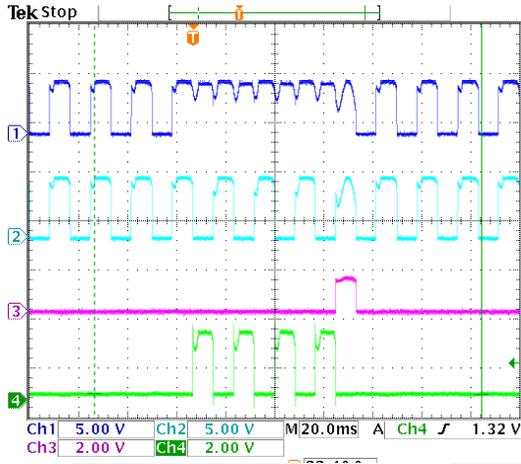
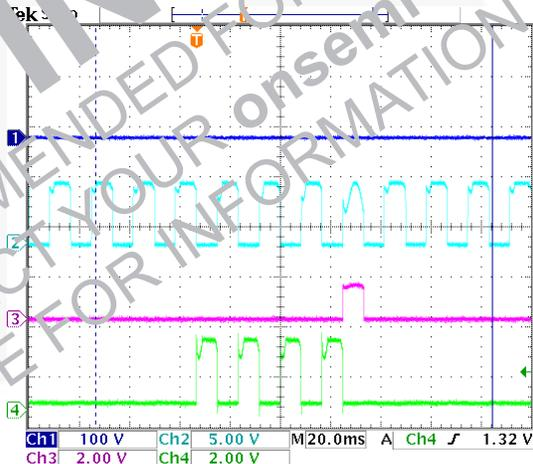

Figure 7. SCR Test Ch1: SCR Test (Pin 1), Ch 2: Phase (Pin 4), Ch 3: EOL Alarm (Pin 5), Ch 4: Fault Test (Pin 6)(8)
Figure 10. Solenoid Test Ch1: SCR Anode (100 V/div), Ch2: Phase (Pin 4), Ch3: EOL Alarm (Pin 5), Ch4: Fault Test (Pin 6)(11)
If any one of the above self tests fail, the FAN41501 repeats the self testing until a 66 ms timer expires. If this occurs, the EOL latch is enabled and the FAN41501 EOL Alarm pin 5 goes HIGH. This signal can be connected to a separate SCR or to the gate of Q1 with a series diode. When the EOL Alarm goes HIGH, the SCR is enabled and energizes the solenoid, which opens the load contacts. When the EOL Alarm pin goes HIGH, if it is connected to the gate of an SCR,  $V_{DD}$  drops below 2.5 V. This generates a Power-On-Reset that resets the logic and repeats a self-test cycle in one second. Figure 7 to Figure 10 show a FAN41501 self-test cycle for a SCR, GFI controller, sense coil, and solenoid failure.
The self test cycle lasts for 66 ms to allow four self-test cycle attempts. After the timer has expired, the EOL alarm is enabled. Figure 7 to Figure 10 show an example of the EOL alarm signal connected to the gate of an SCR. When the EOL alarm signal is enabled, the  $V_{DD}$  voltage is discharged, which causes a POR. The EOL alarm is disabled and a self-test cycle is repeated in one second.
9. This test is the same as Figure 7, except for the time scale. After a self-test failure, an EOL alarm pulse is generated every one second.